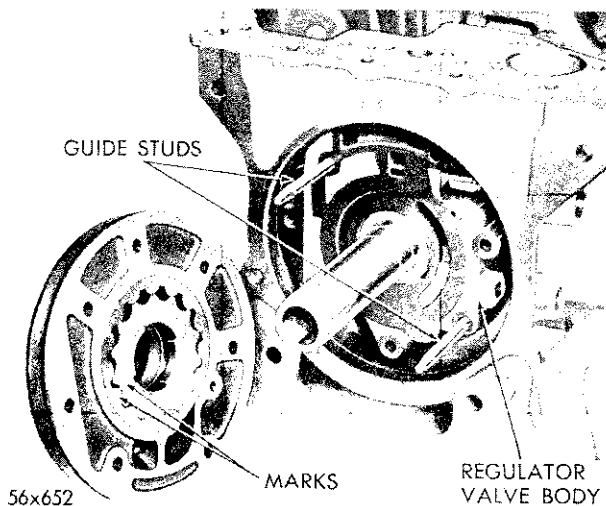

Fig. 79—Installing Front Oil Pump Assembly
(1) With the inner and outer seals lubricated and the pump rotors in position in housing (Fig. 79) (counterbore in pinion gear facing down as identified when removed) place the oil pump housing over studs and slide into position.
(2) Start the bolts and aluminum sealing washers and tighten evenly until the housing is seated into the transmission case. Remove the guide studs and